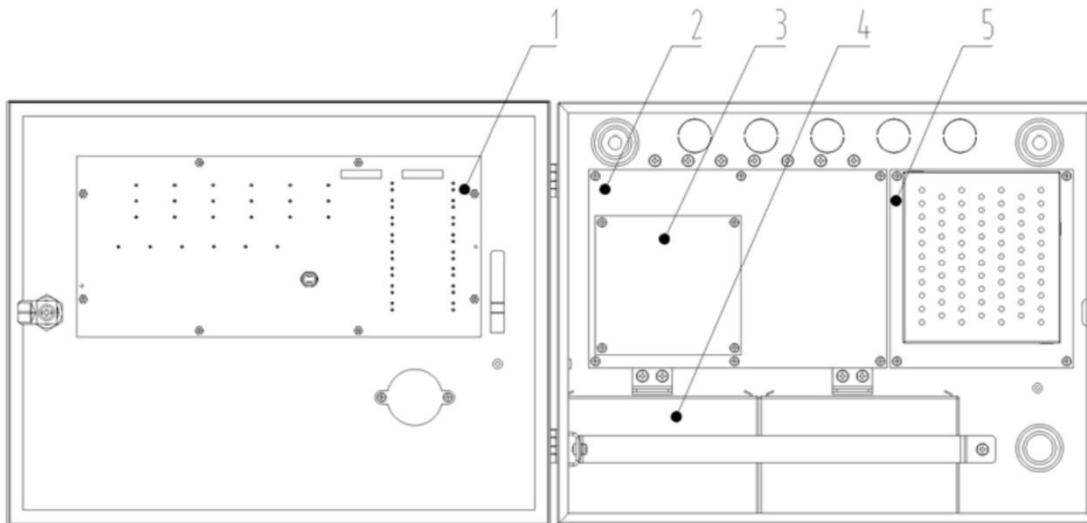

Figure 2 The internal construction of the FACP
2. The internal construction of the FACP is shown in Fig. 2.